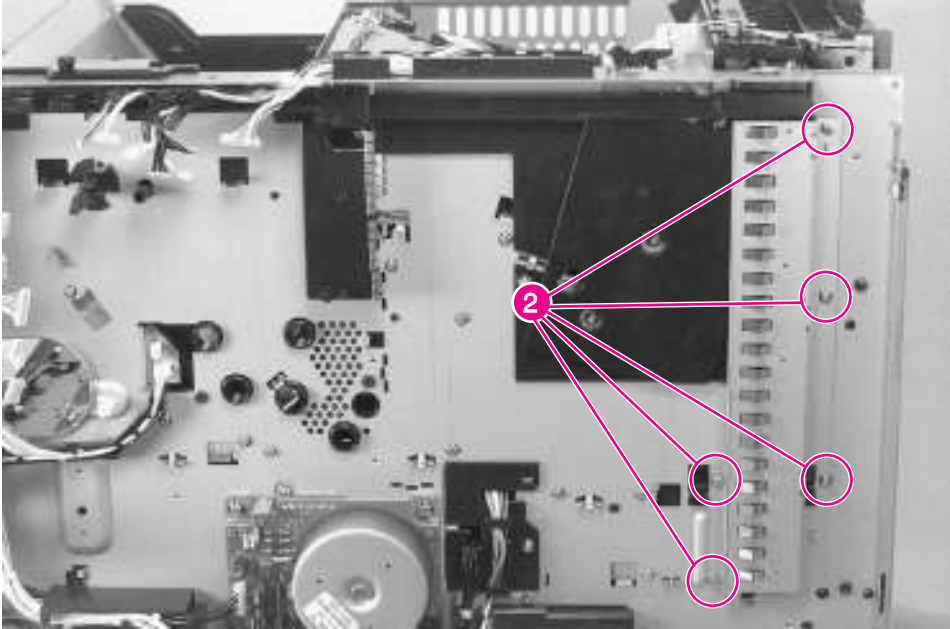

Figure 6-43 **Output Paper Sensor PCA (2 of 4)**
- 3** Remove 5 screws (figure 6-43, callout 2), and remove the Formatter PCA grounding strip.